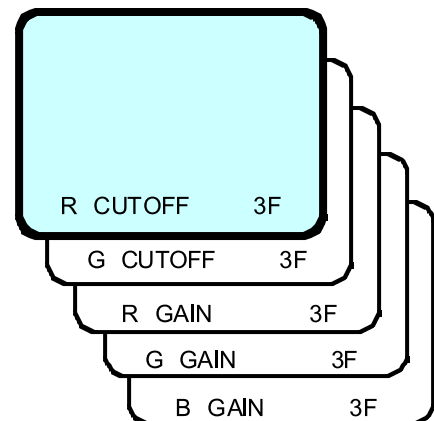

Fig.4-4
9. Repeat the steps 1 to 8 till white shade becomes most visible. (Fig. 4-4)